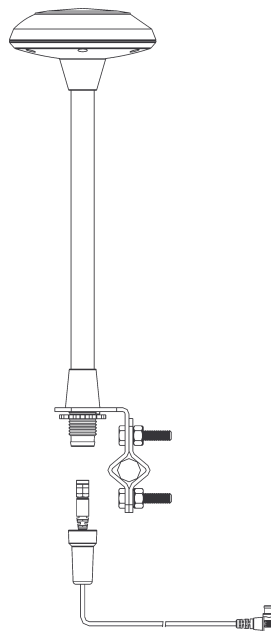

Figure 5- Cable Connector/Rubber Boot Connection
12. Take the cable connector (180 degree connector) not the Right-Angle SMB Connector and hand tighten over the connector on the bottom side of the Antenna Assembly. See Figure 5.
14. Place the rubber boot over the end of the Antenna Assembly shaft after the cable connector has been tighten. See Figure 5.